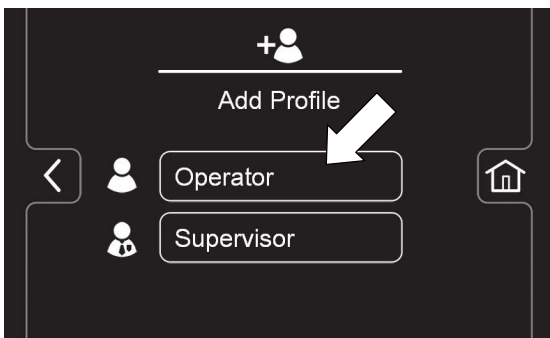

FIG. 142
3.  Press the “Operator” button to add a new operator (Figure 142).
- Or press the “Supervisor” button to add an additional supervisor (Figure 142).